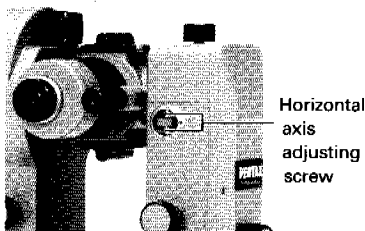

Fig. 28
4. Removing adjusting cover, sight point A by turning horizontal adjusting screw with adjusting pin. (Fig. 28)